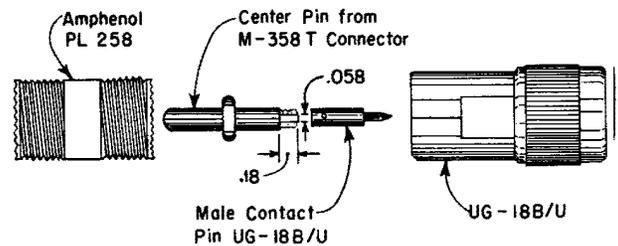

Fig. 63
- (b) Place the center pin in a lathe or drill press and turn down the threaded portion to a diameter of 0.058 inch, maintaining the threaded length which is approximately 0.18 inch as shown in Fig. 63.